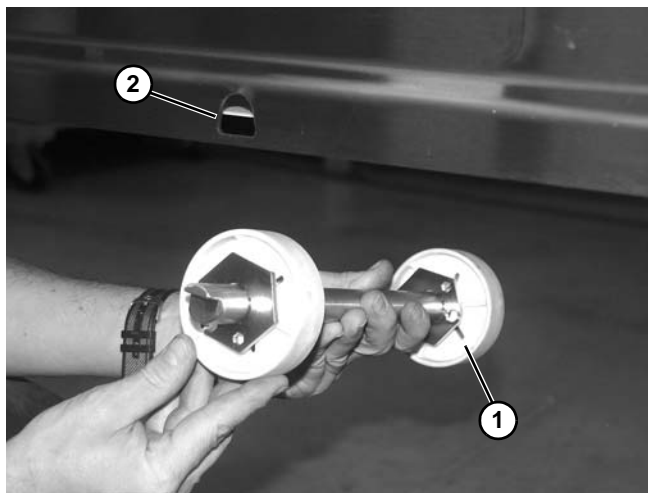

Figure 77
3. Remove belt returns (Figure 77, item 1) from slotted holes (Figure 77, item 2) on each side of conveyor frame at location you are separating belt.